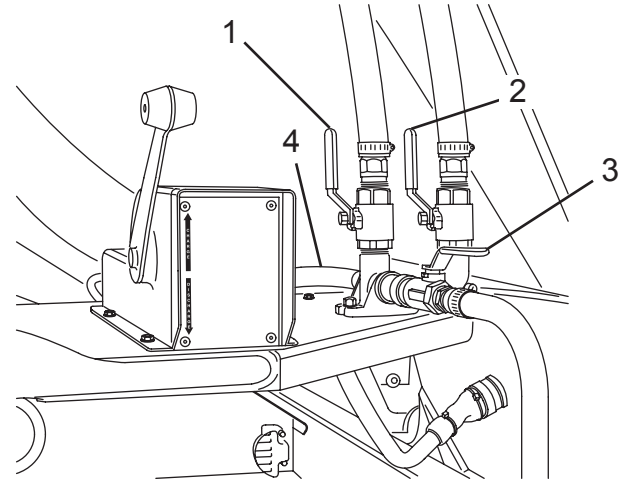

Figure 81
5. Open wash-out hose valve (Figure 81, Item 3) at the rear of the Mixer and allow water to drain.
6. Open drum wash-out valve (if equipped) (Figure 81, Item 1), and add-water valve (Figure 81, Item 2) and allow water to drain.
10. Close the drum wash-out valve (if equipped) (Figure 81, Item 1) and add-water valve (Figure 81, Item 2).
13. Open the drain petcock located at the lowest point in the supply hose (Figure 81, Item 4).